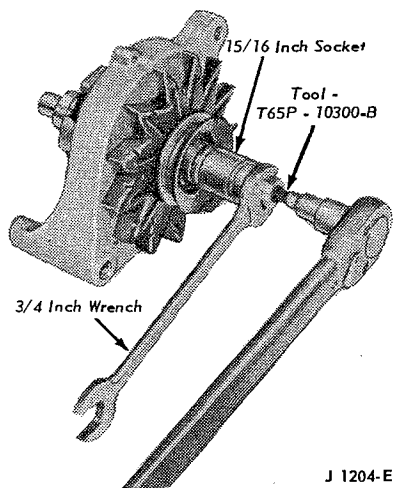

FIG. 13 Pulley Removal
9. Remove the drive pulley nut with the tool shown in Figure 13; then, pull the lock washer, pulley, fan, fan spacer, rotor and rotor stop from the rotor shaft.
- Position the front housing, fan, spacer, fan, pulley and lock washer on the drive shaft and install the retaining nut. Tighten the retaining nut with the tool shown in Figure 13 to the specified torque.